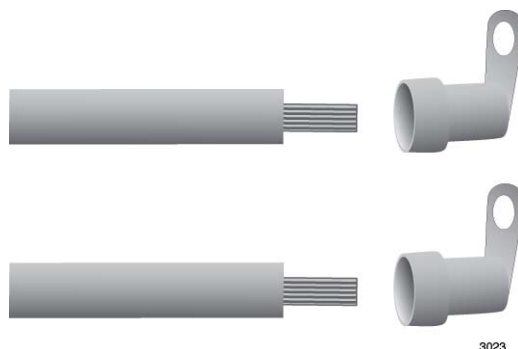

Figure 135. Attaching the Power Wires to the Right Angle Terminals
2. Insert the power wires into the right angle terminals included with the power supply and use a crimping tool to secure the wires to the terminals. See Figure 135.